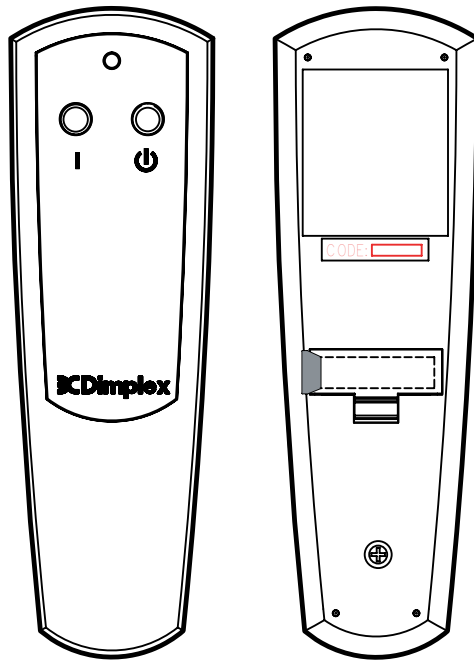

Fig. 4
Note: Before attempting any operation with the remote control, pull the plastic insulator strip out from between the remote casing and the battery cover (Figure 4).
3. Within ten seconds of re-acquiring power, press the ON button located on the remote control (Figure 4)
1. Slide the battery cover open on the remote control (Figure 4)